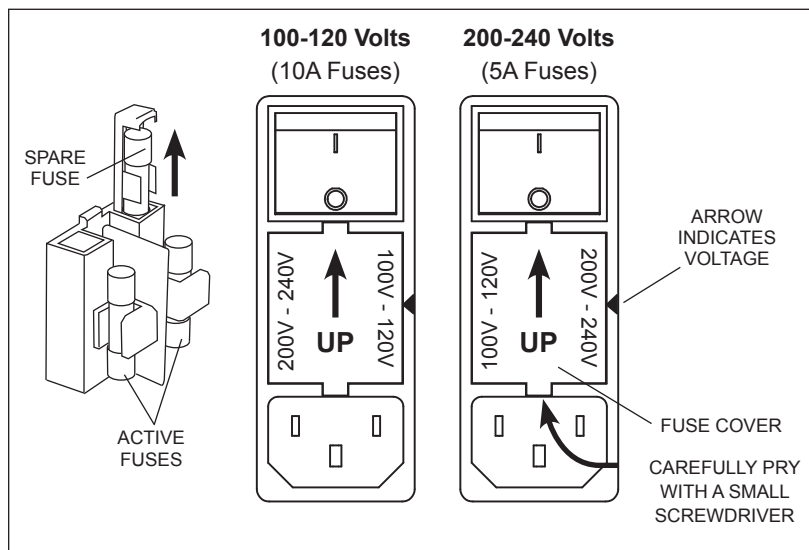

Figure 9
The fuse compartment contains two extra fuses that can be used to replace blown fuses in the field. Access the replacement fuses by sliding out a compartment behind each fuse, as shown in Figure 9.
- Orient the fuse cover so that the arrow points toward the correct voltage for your region as shown in Figure 9.